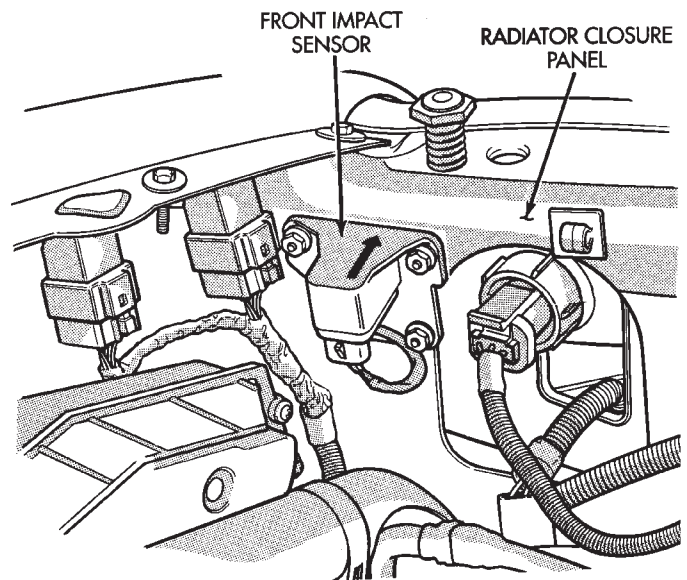

Fig. 6 Left Impact Sensor
- (1) Disconnect battery negative cable and isolate.
- (2) Remove three nuts holding sensor to upper cross-member of radiator closure panel and remove sensor (Fig. 6).
- (3) Disconnect impact sensor electrical connector.
- (1) Connect sensor wiring lead from harness to connector on body of sensor.
- (2) Install left sensor with arrow pointing forward (Fig. 6) and tighten nuts to 4.5 to 7 N•m (40 to 60 in. lbs.) torque using nuts provided with the new sensor.
- (3) Do not connect battery negative cable. Refer to Air Bag Systems Check for proper procedure.
(2) Install right sensor with arrow pointing forward (Fig. 6) and tighten nuts to 4.5 to 7 N•m (40 to 60 in. lbs.) torque using nuts provided with the new sensor.
(3) Do not connect battery negative cable. Refer to Air Bag Systems Check for proper procedure.